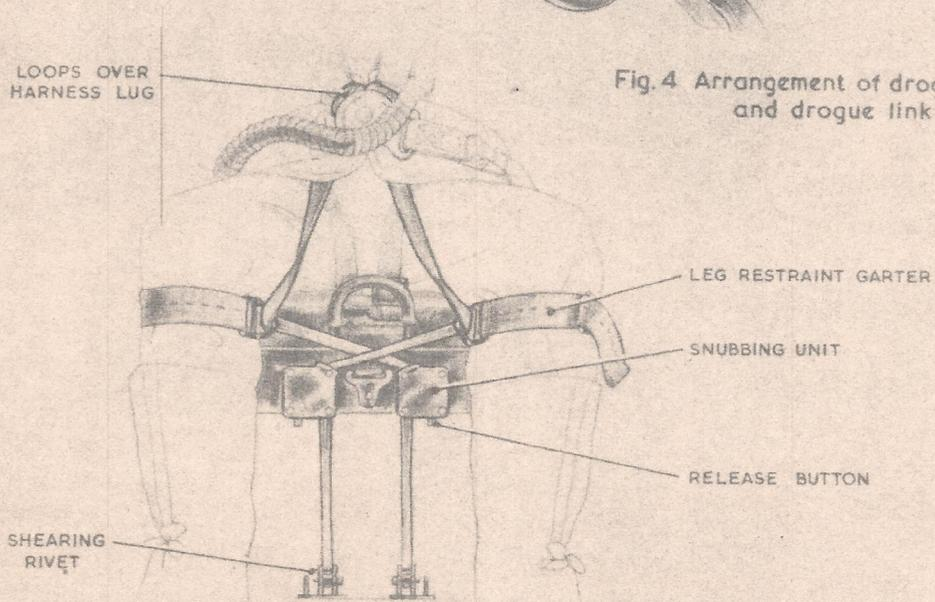

Fig.5 Arrangement of leg restraint cords
9. The following procedure is to be adopted, reference to fig.5, 6 and 7 being made as necessary:-